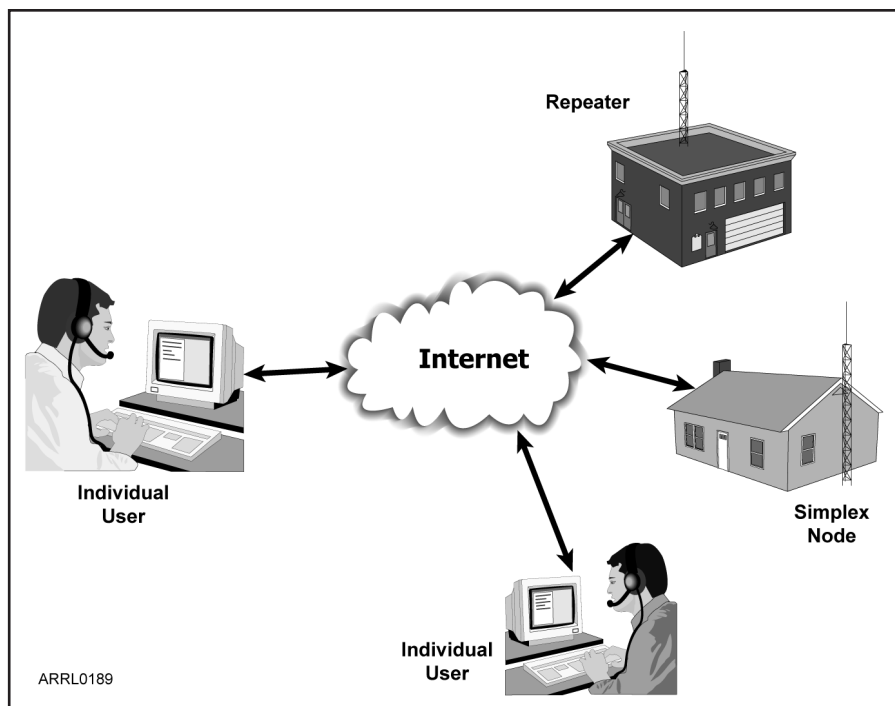

Fig 33 — For some Echolink users, there is no radio involved (at least at their end of the conversation).
- **Users:** This is strictly a computer-to-computer VoIP connection (see Fig 33) with no RF involved. In other words, the operator